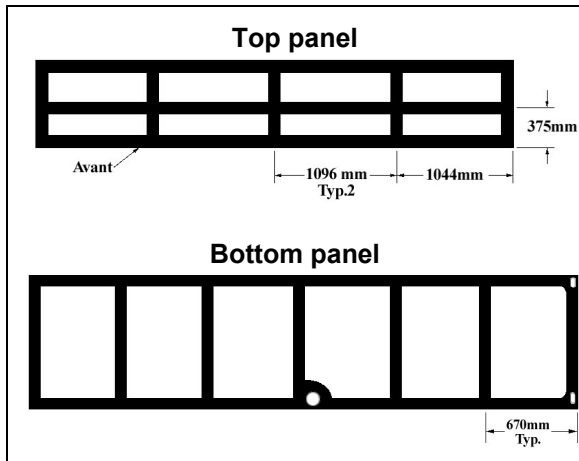

FIGURE 46 TOP AND BOTTOM PANEL INSTALLATION - SIKA 206 G+P APPLICATION
3. Apply Sika 206 G+P on panel as shown in FIGURE 46;